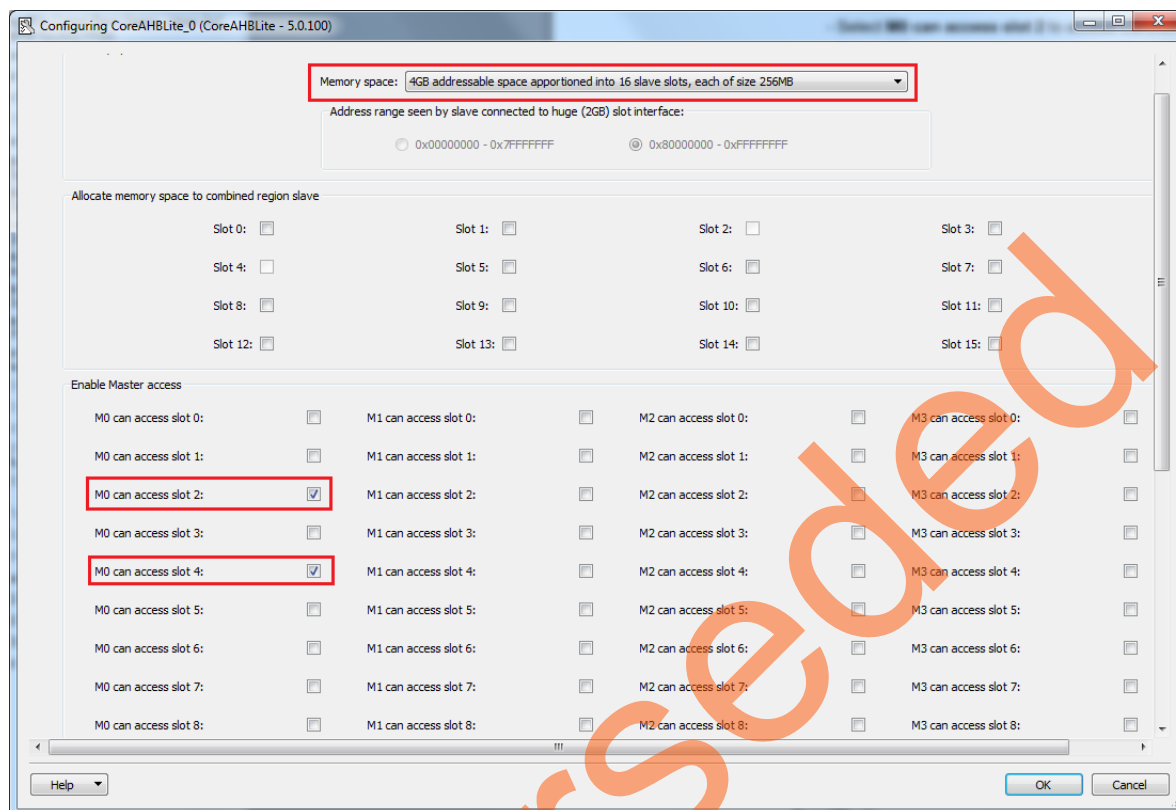

Figure 17 • Configuring CoreAHBLite_0
2. Double-click **CoreAHBLite_0** to configure it. Figure 17 shows the **Configuring CoreAHBLite_0** window.